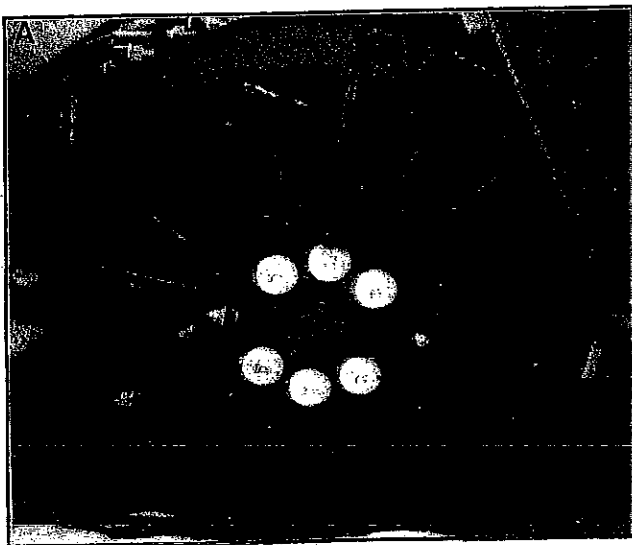

FIGURE 23 - CLOSE-UPS
Optional wheel close-ups (A) are available to prevent small beets from falling out between the lifter wheel spokes. Slots are provided in close-ups to allow rotating them out of the way when conditions warrant (see Figure 23).
Optional cushions (B) (see Figure 23) are available (standard on flex struts) that allow the lifter wheels to spread apart when rocks are pinched between the wheels. The cushions are recommended where many small (baseball size) rocks are in the field. If large rocks are also present, the addition of flex struts is recommended.